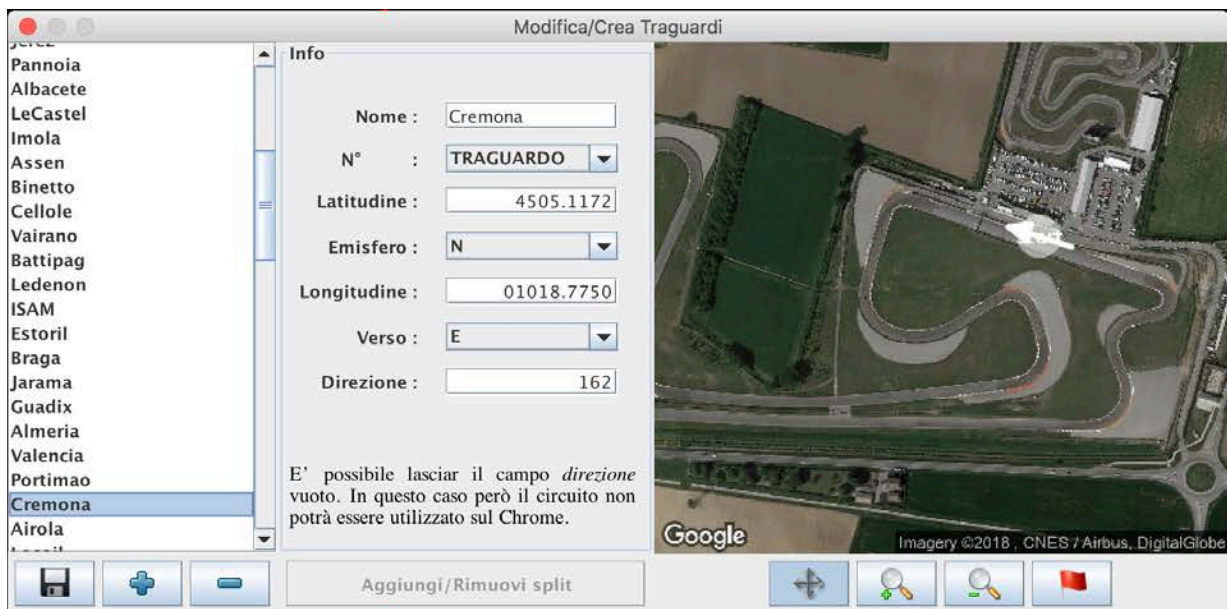

Fig. 17- List of finish lines
- **Modify/create finish lines:** with this function you can manage all the finish lines that have been saved in Danas Pro. When choosing this function from the map menu, it will appear a window as shown in figure 17. On the left you can find the list of all the currently available finish lines in Danas. When you select a finish line, its info will be shown on the right side of the window, including name, coordinates and direction.